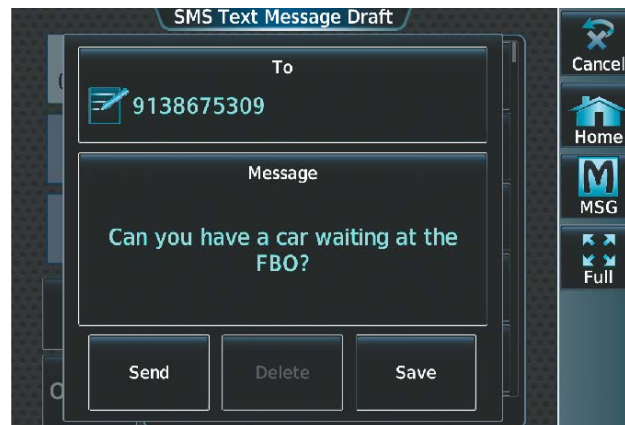

Figure 8-88 Message Ready to Send
- 8) Touch the **Enter** Button. The message text is displayed in the 'Message' Window as shown in Figure 8-88.